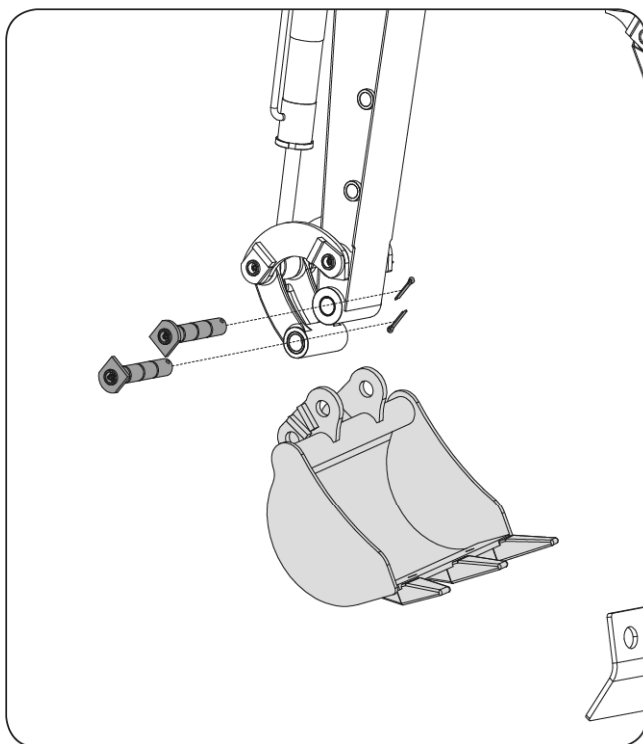

Figure 117
1. Stop the machine and rest the bucket on the ground. Remove the shovel pin weldment, then remove the standard bucket off the machine. (See **Figure 117**)